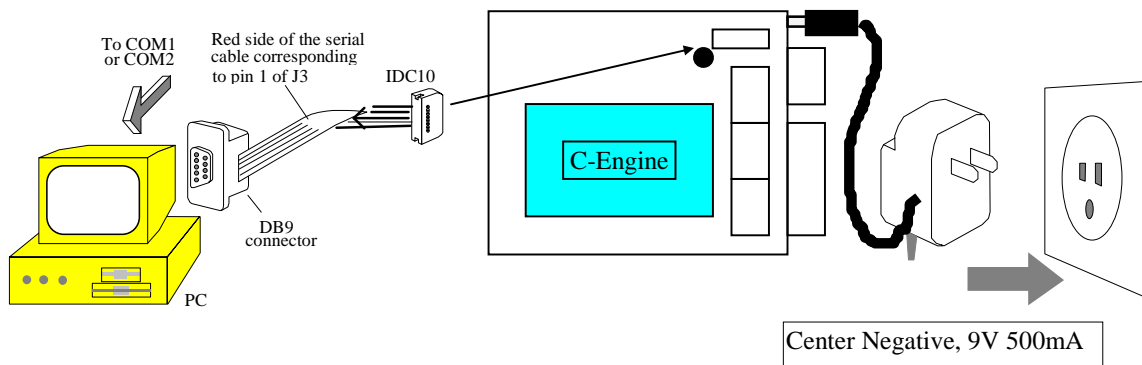

Fig. 2.1. Connect the PC-Con™ to your PC COM1/2 via a PC-V25 serial cable.
1. Connect the IDC10 connector of the RS232 serial cable to J6 of PC-Co™, with the red side of the cable corresponding to pin 1 of J6 (a small circle close to J6 indicates pin number 1), and connect DB9 connector of the serial cable to COM1 or COM2, the PC serial port, as shown in Fig. 2.1.